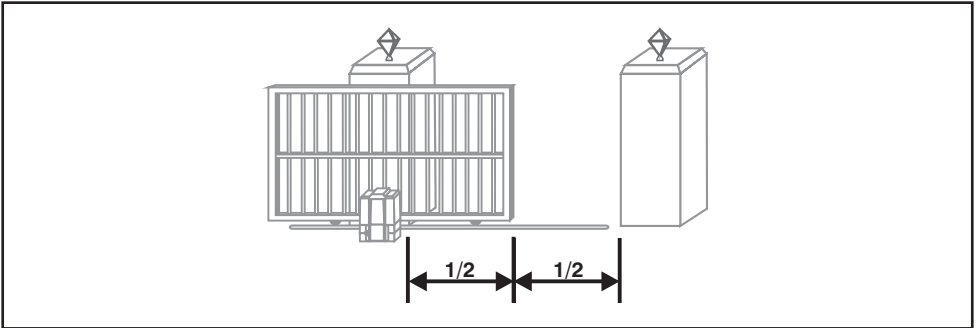

Figure 22 Slide gate approximately half way open
6. Slide gate approximately half way open. See Figure 22.